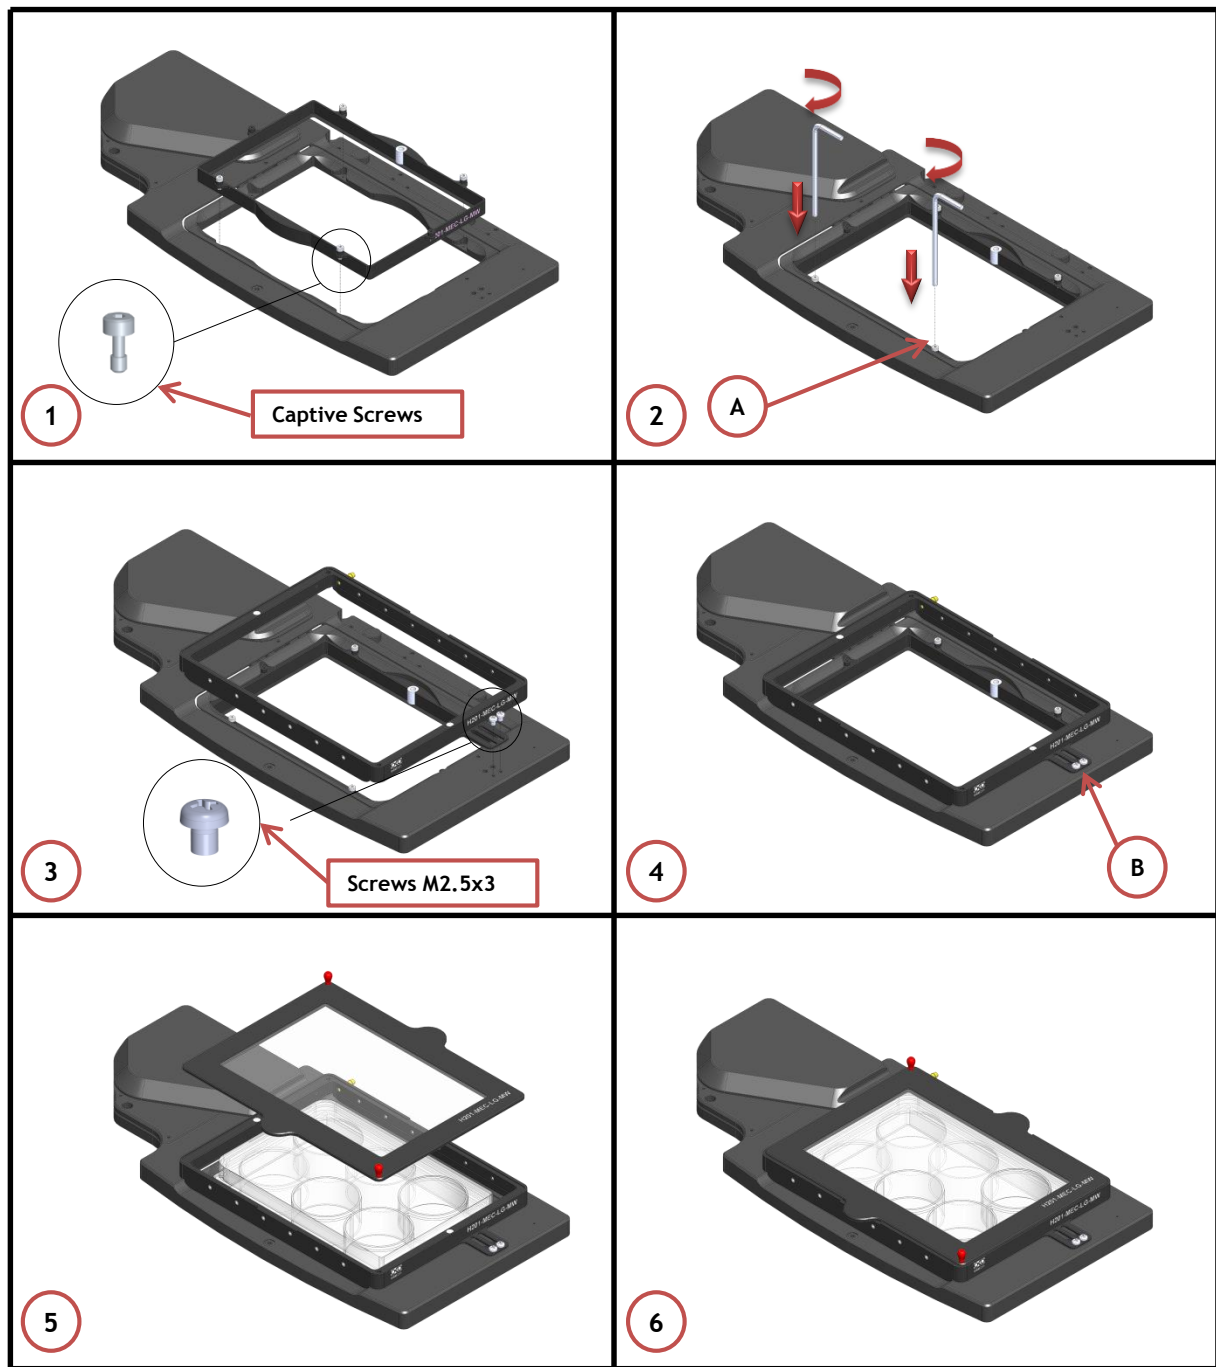

Figure 18. How to install the H201-LG on the Galvo stage-with MW plate
When using H201-LG with MW plates, install it on the Galvo stage as shown in Figure 18:
1. Place the MW plate holder on the stage and tighten the four captive screws (See Figure 18, Image 1 and Image 2)
2. Place the chamber frame on the stage and tighten the two screws M2.5x3 (See Figure 18, Image 3 and Image 4)
3. Place the lid on the chamber as shown in Figure 18, Image 5
4. Figure 18, Image 6 shows H201-LG with MW plate holder on the Galvo stage